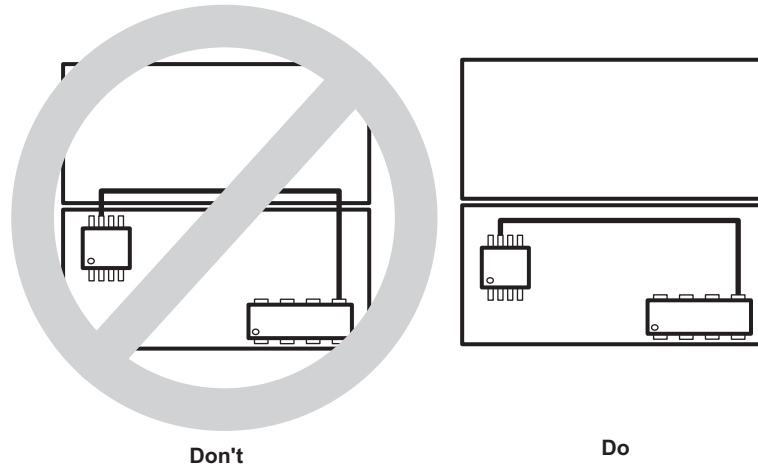

Figure 7-36. Do Not Cross Plane Boundaries
- Do not route traces so they cross from one plane to the other. This can cause a broken RF return path resulting in an EMI radiating loop as shown in Figure 7-36. This is important for higher frequency or repetitive signals. Therefore, on a multi-layer board, it is best to run all clock signals on the signal plane above a solid ground plane.